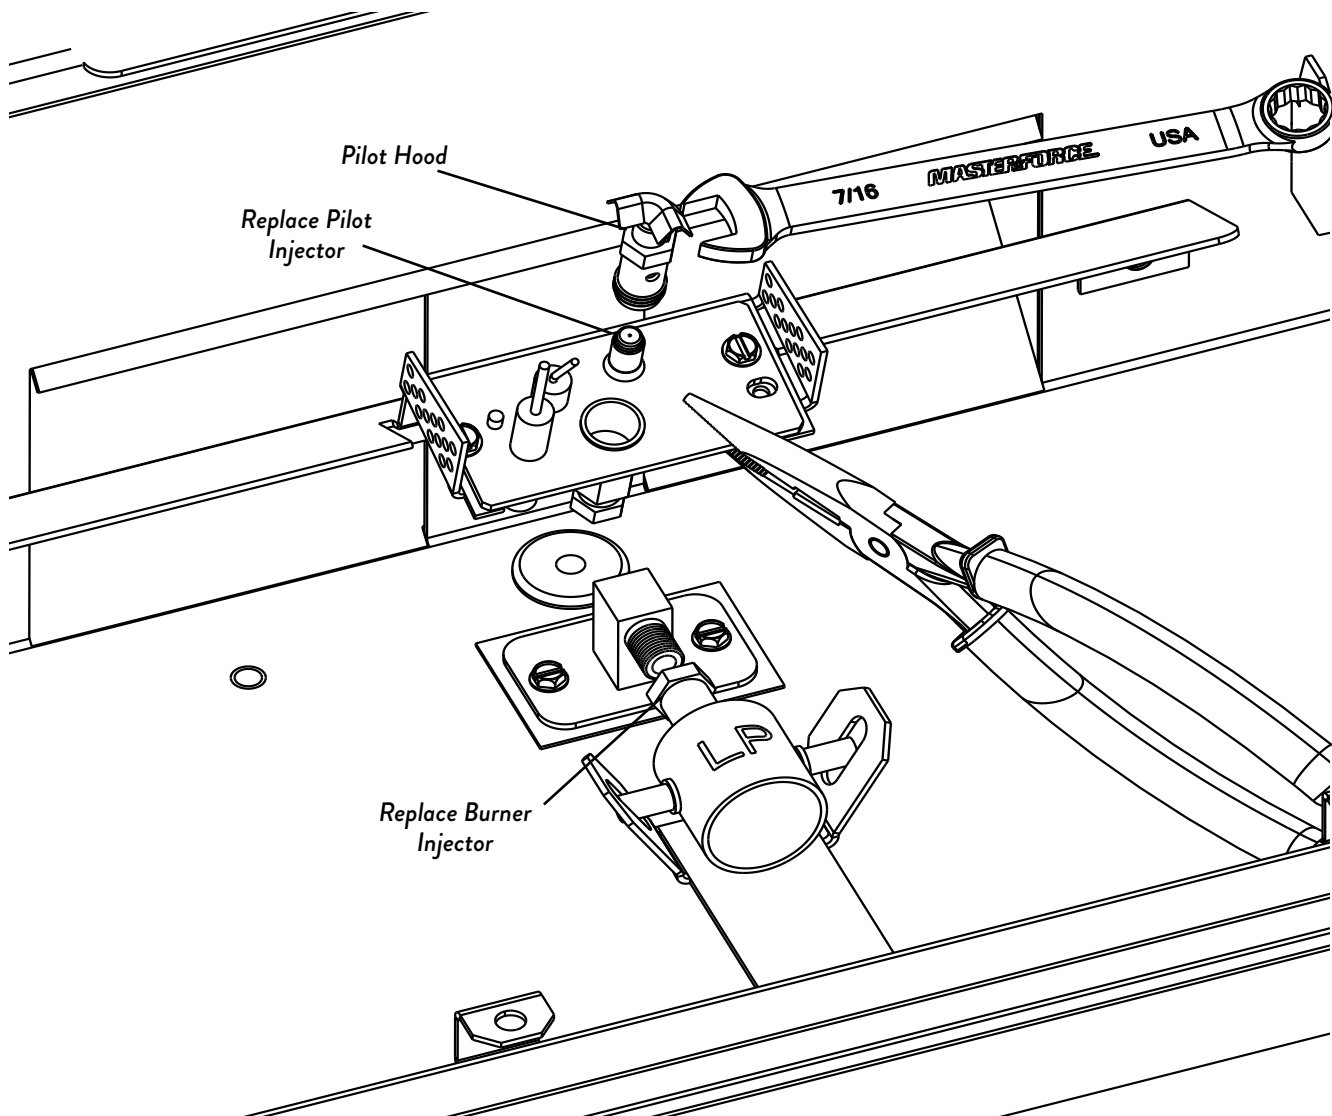

Figure 7.3.
5. Change the Burner Injector. See fig. 7.3. Using a 1/2" open end wrench or deep-well socket, remove the burner injector from the orifice holder and replace it with the injector supplied in the conversion kit.
6. Change the Pilot Injector, Fig 7.3.
7. Flip the Air Shutter. Carefully bend open the Air Shutter Handle and flip the Air Shutter so it displays "LP". Carefully bend the Air Shutter Handle back around the Air Shutter. See fig 7.3